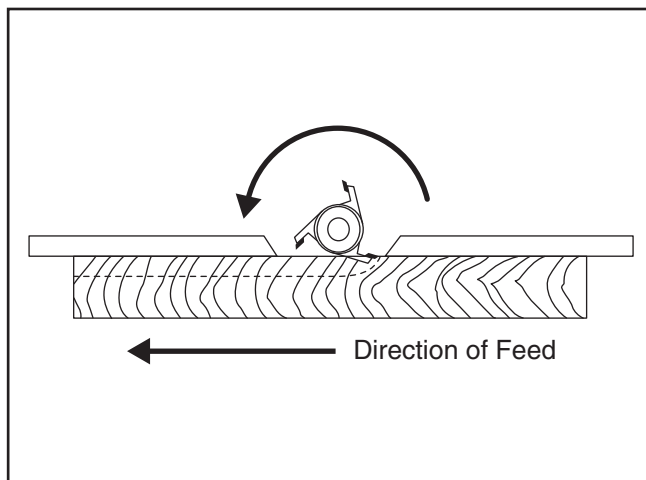

Figure 33. Partial face cut fence alignment.
- Run a test piece through the shaper to verify the cut (see **Figure 33**).